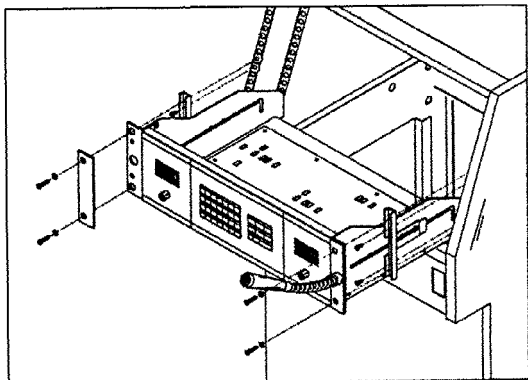

Figure 4-3 CIP TRAY WITH MICROPHONE
2. Slide the CIP tray into the cabinet and attach the slide shims of the tray using the (4) 12-24x pan head Phillips screws on the two innermost Tinnerman clip positions (see Figure 4-3).